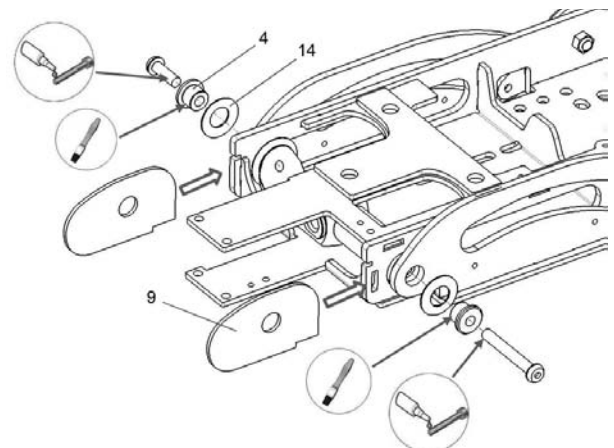

Fig. 21. Mount the two parts of the tilt together.
10. Mount the two parts of the tilt together using the screws, bushings (4), disc springs (14) and the squeeze guards. Lubricate the inside of the bushing with grease and apply threadlock (Loctite 243) on the screws before mounting. Use a torque wrench to thighten the screws. See fig. 21. **Tightening torque: 24 Nm.**